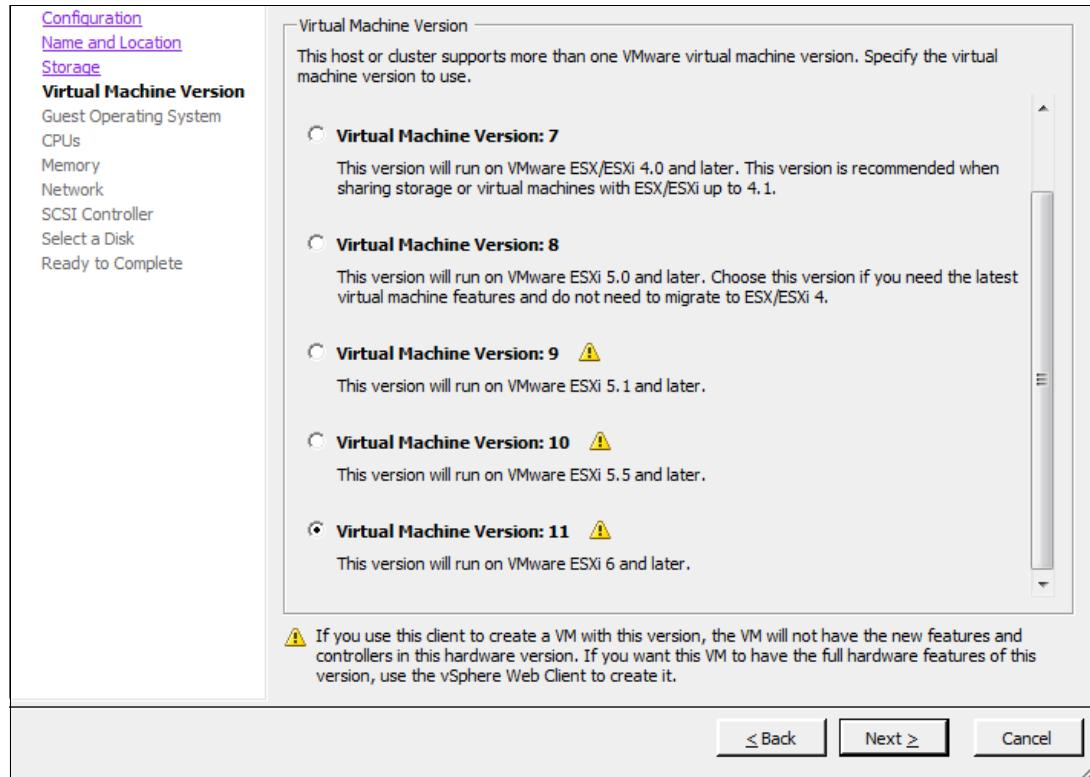

Figure 3-7 Virtual machine version selection
5. Select the version appropriate to your VMware ESXi version in the Virtual Machine Version panel (Figure 3-7), and then click **Next**.